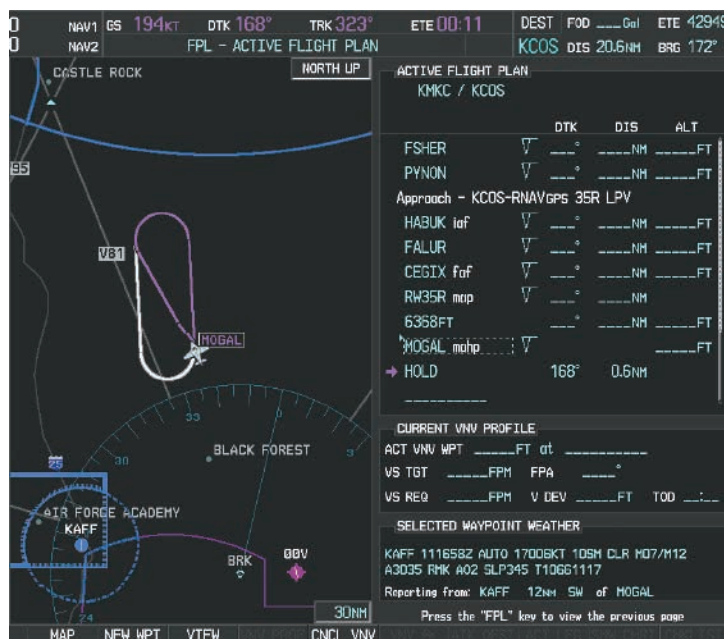

Figure 5-151 Establishing the Holding Pattern
- 26) The aircraft continues climbing to “AT or ABOVE” 10,000 feet at MOGAL. A holding pattern is established at the MAHP (MOGAL) as shown in Figure 5-151.